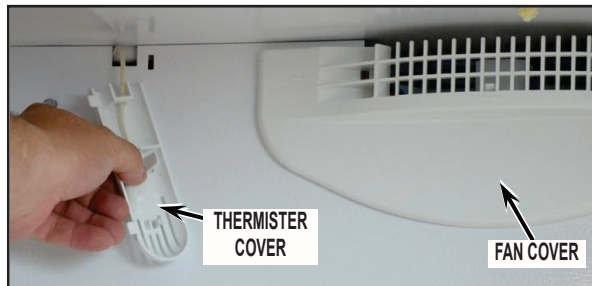

FIGURE 6
1. Remove the thermister cover by releasing 2 tabs on the right side. The freezer thermistor connector can be accessed behind the FC evaporator cover. See *Figure 6*.